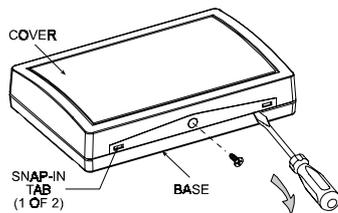

Figure 6. Separating the Cover from the Base
- Remove the screw that secures the cover to the base (Fig. 6).